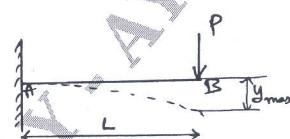

Fig.Q2(b)
b. A cantilever beam of span 'L' is subjected to a point load at its free end as shown in Fig.Q2(b). Derive an equation for the deflection at free end by using RR method. Assume polynomial displacement function.